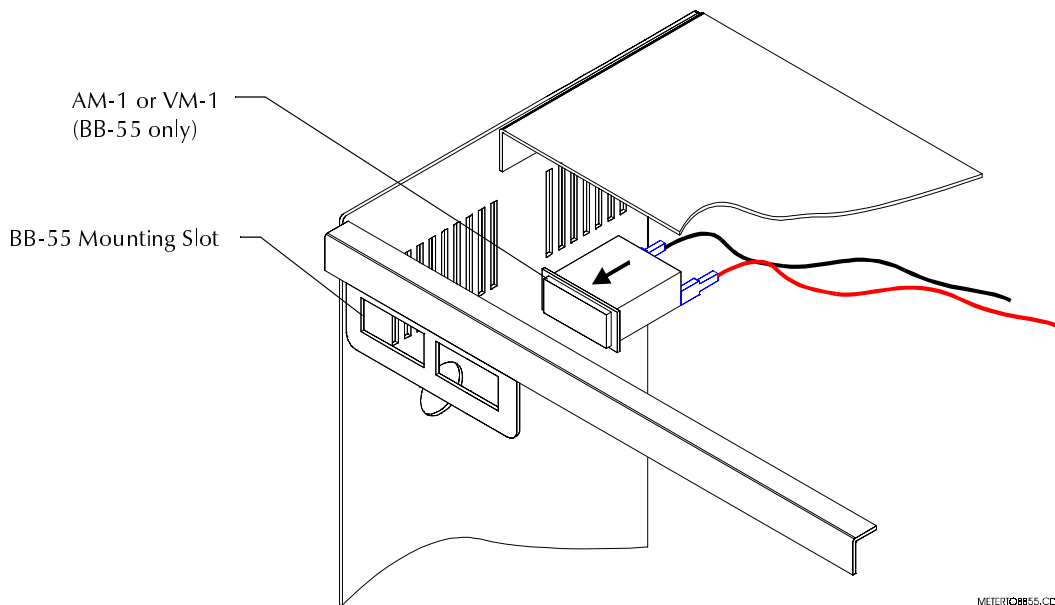
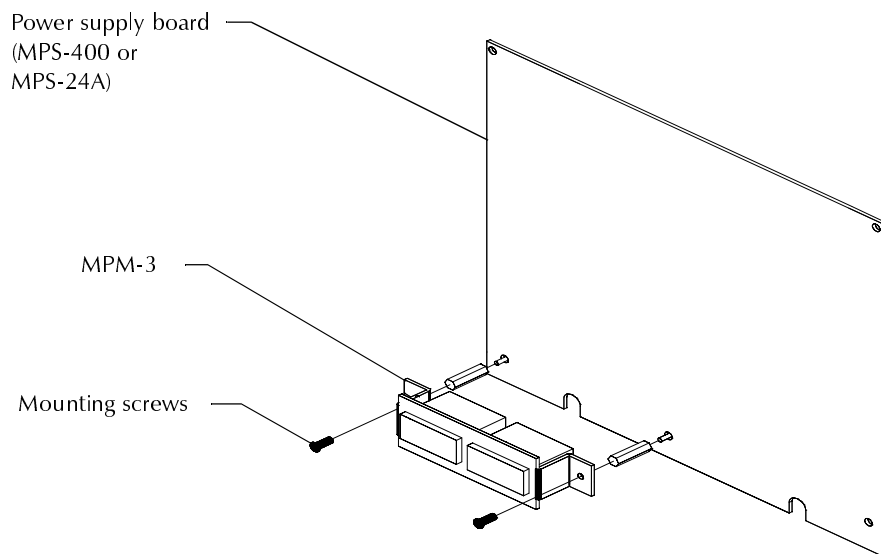

Figure 14 Mounting an AM-1 or VM-1 to a BB-55 Battery Box
Figure 15 Mounting an MPM-3
You can also order and install a ammeter (AM-1), voltmeter (VM-1), or both (MPM-3) for use with the charger. If mounting an AM-1 or a VM-1, mount the meter to a BB-55 as shown in Figure 14. If mounting an MPM-3, mount to a power supply (Figure 15) installed in a CAB-3. Table 6 contains descriptions and part numbers for these optional meters:
3. Mount the AM-1 into a mounting slot on the front of the BB-55 (Figure 14):
3. Mount the MPM-3 onto a power supply connected to your system, such as an MPS-400 or MPS-24A (Figure 15).